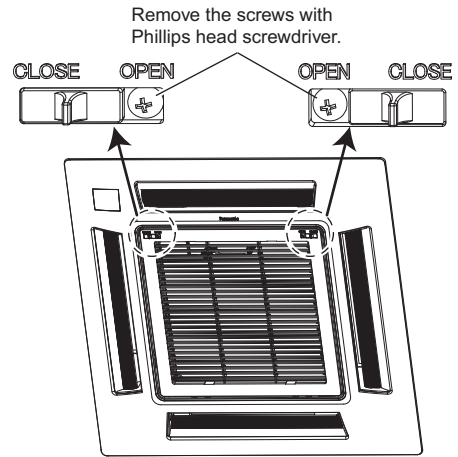

Fig. 1-140
- (1) Remove the air-intake grille and air filter from the decorative panel.
- Remove the 2 screws on the latch of the air-intake grille. (Fig. 1-140) (Reattach the air-intake grille after installation of the decorative panel.)